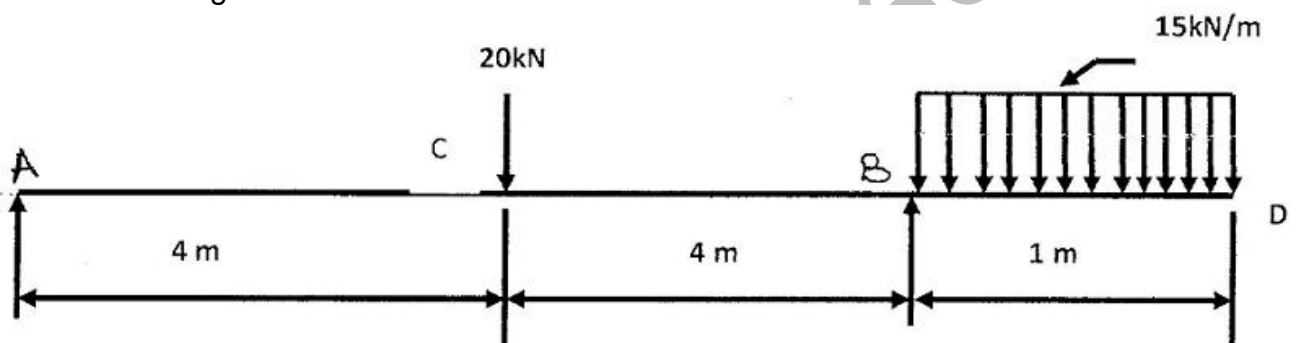

Fig 2.
- 15 Determine the slope of deflection under points C and D for an overhanging beam as shown in Fig. 2. 10